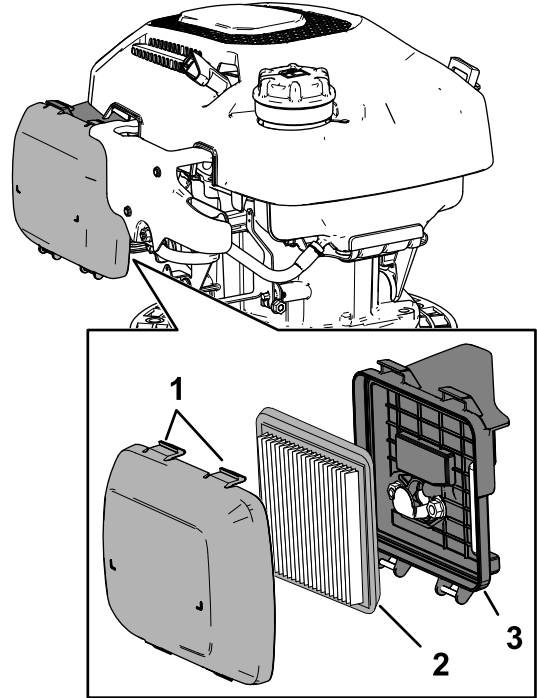

Figure 33
1. Press down on the latch tabs at top of the air-filter cover (Figure 33).
3. Remove the filter element (Figure 33).